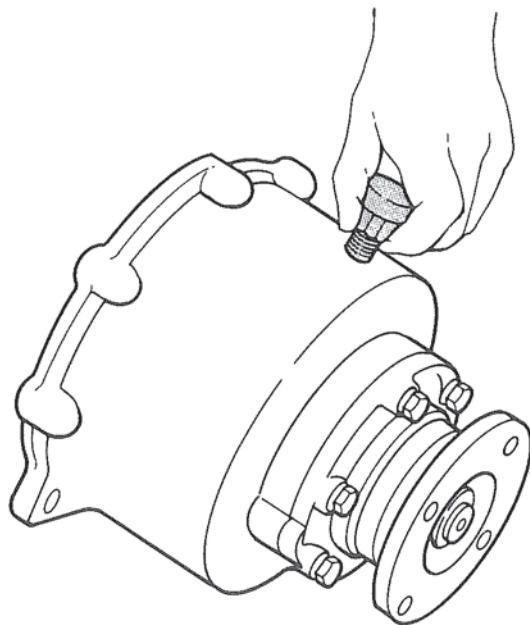

Figure 27. Assembling Breather.
7. Assemble the breather assembly in the 3/8 in. pipe tapped hole provided in the reduction housing. Figure 27.